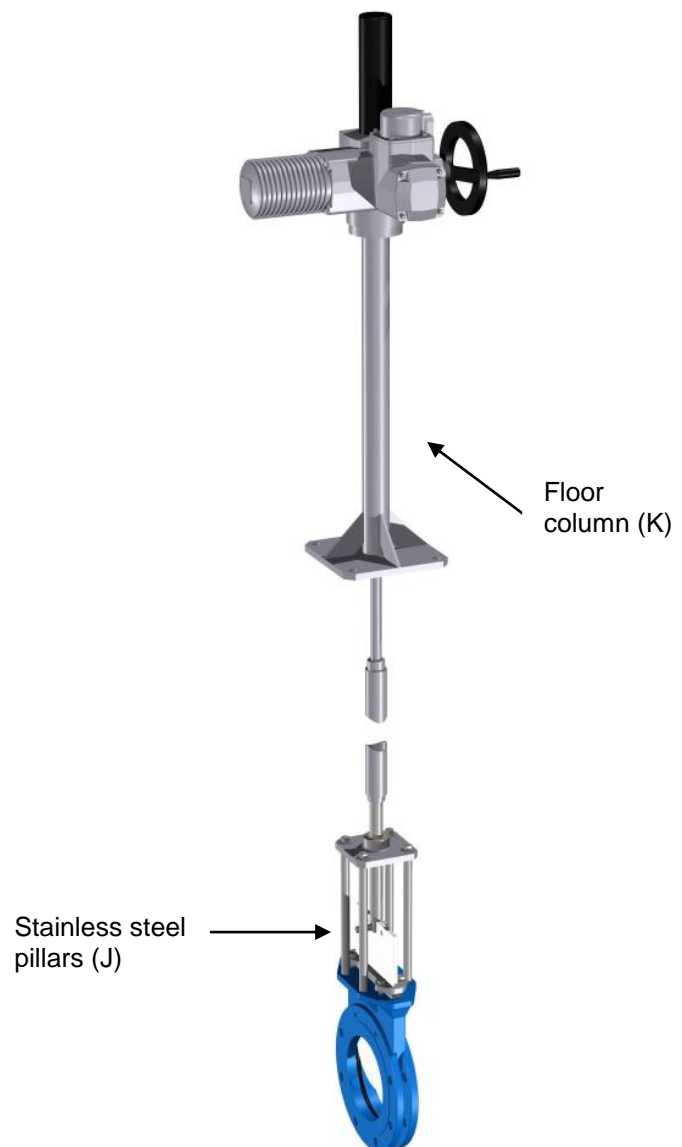

Figure 1
Stafsjö recommends that the stem extension kit long is delivered with a floor column (K), see figure 1.